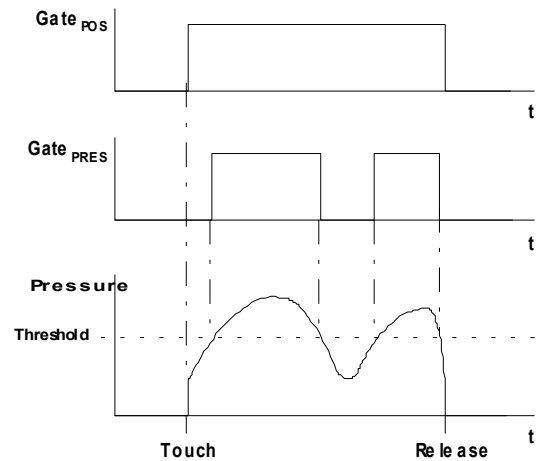

Fig. 2: Connection between the Gate signals and the finger pressure (Gate_{POS} is shown for Hold = Off)
④ Thres
Control ④ is used to set the **Trigger Threshold** above which a Gate signal is generated (see fig. 2). Whenever the pressure control voltage exceeds the threshold the Gate output ④ turns to high.
⑤ LED